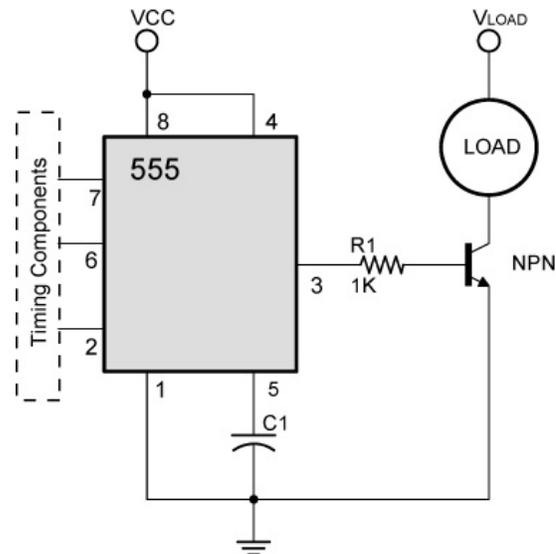

**Figure 4 – 555 as a Source**
- 555 Output as a Source: In Figure 4, when the pin 3 output is HIGH it provides a current source from the 555 and the LED is switched on.